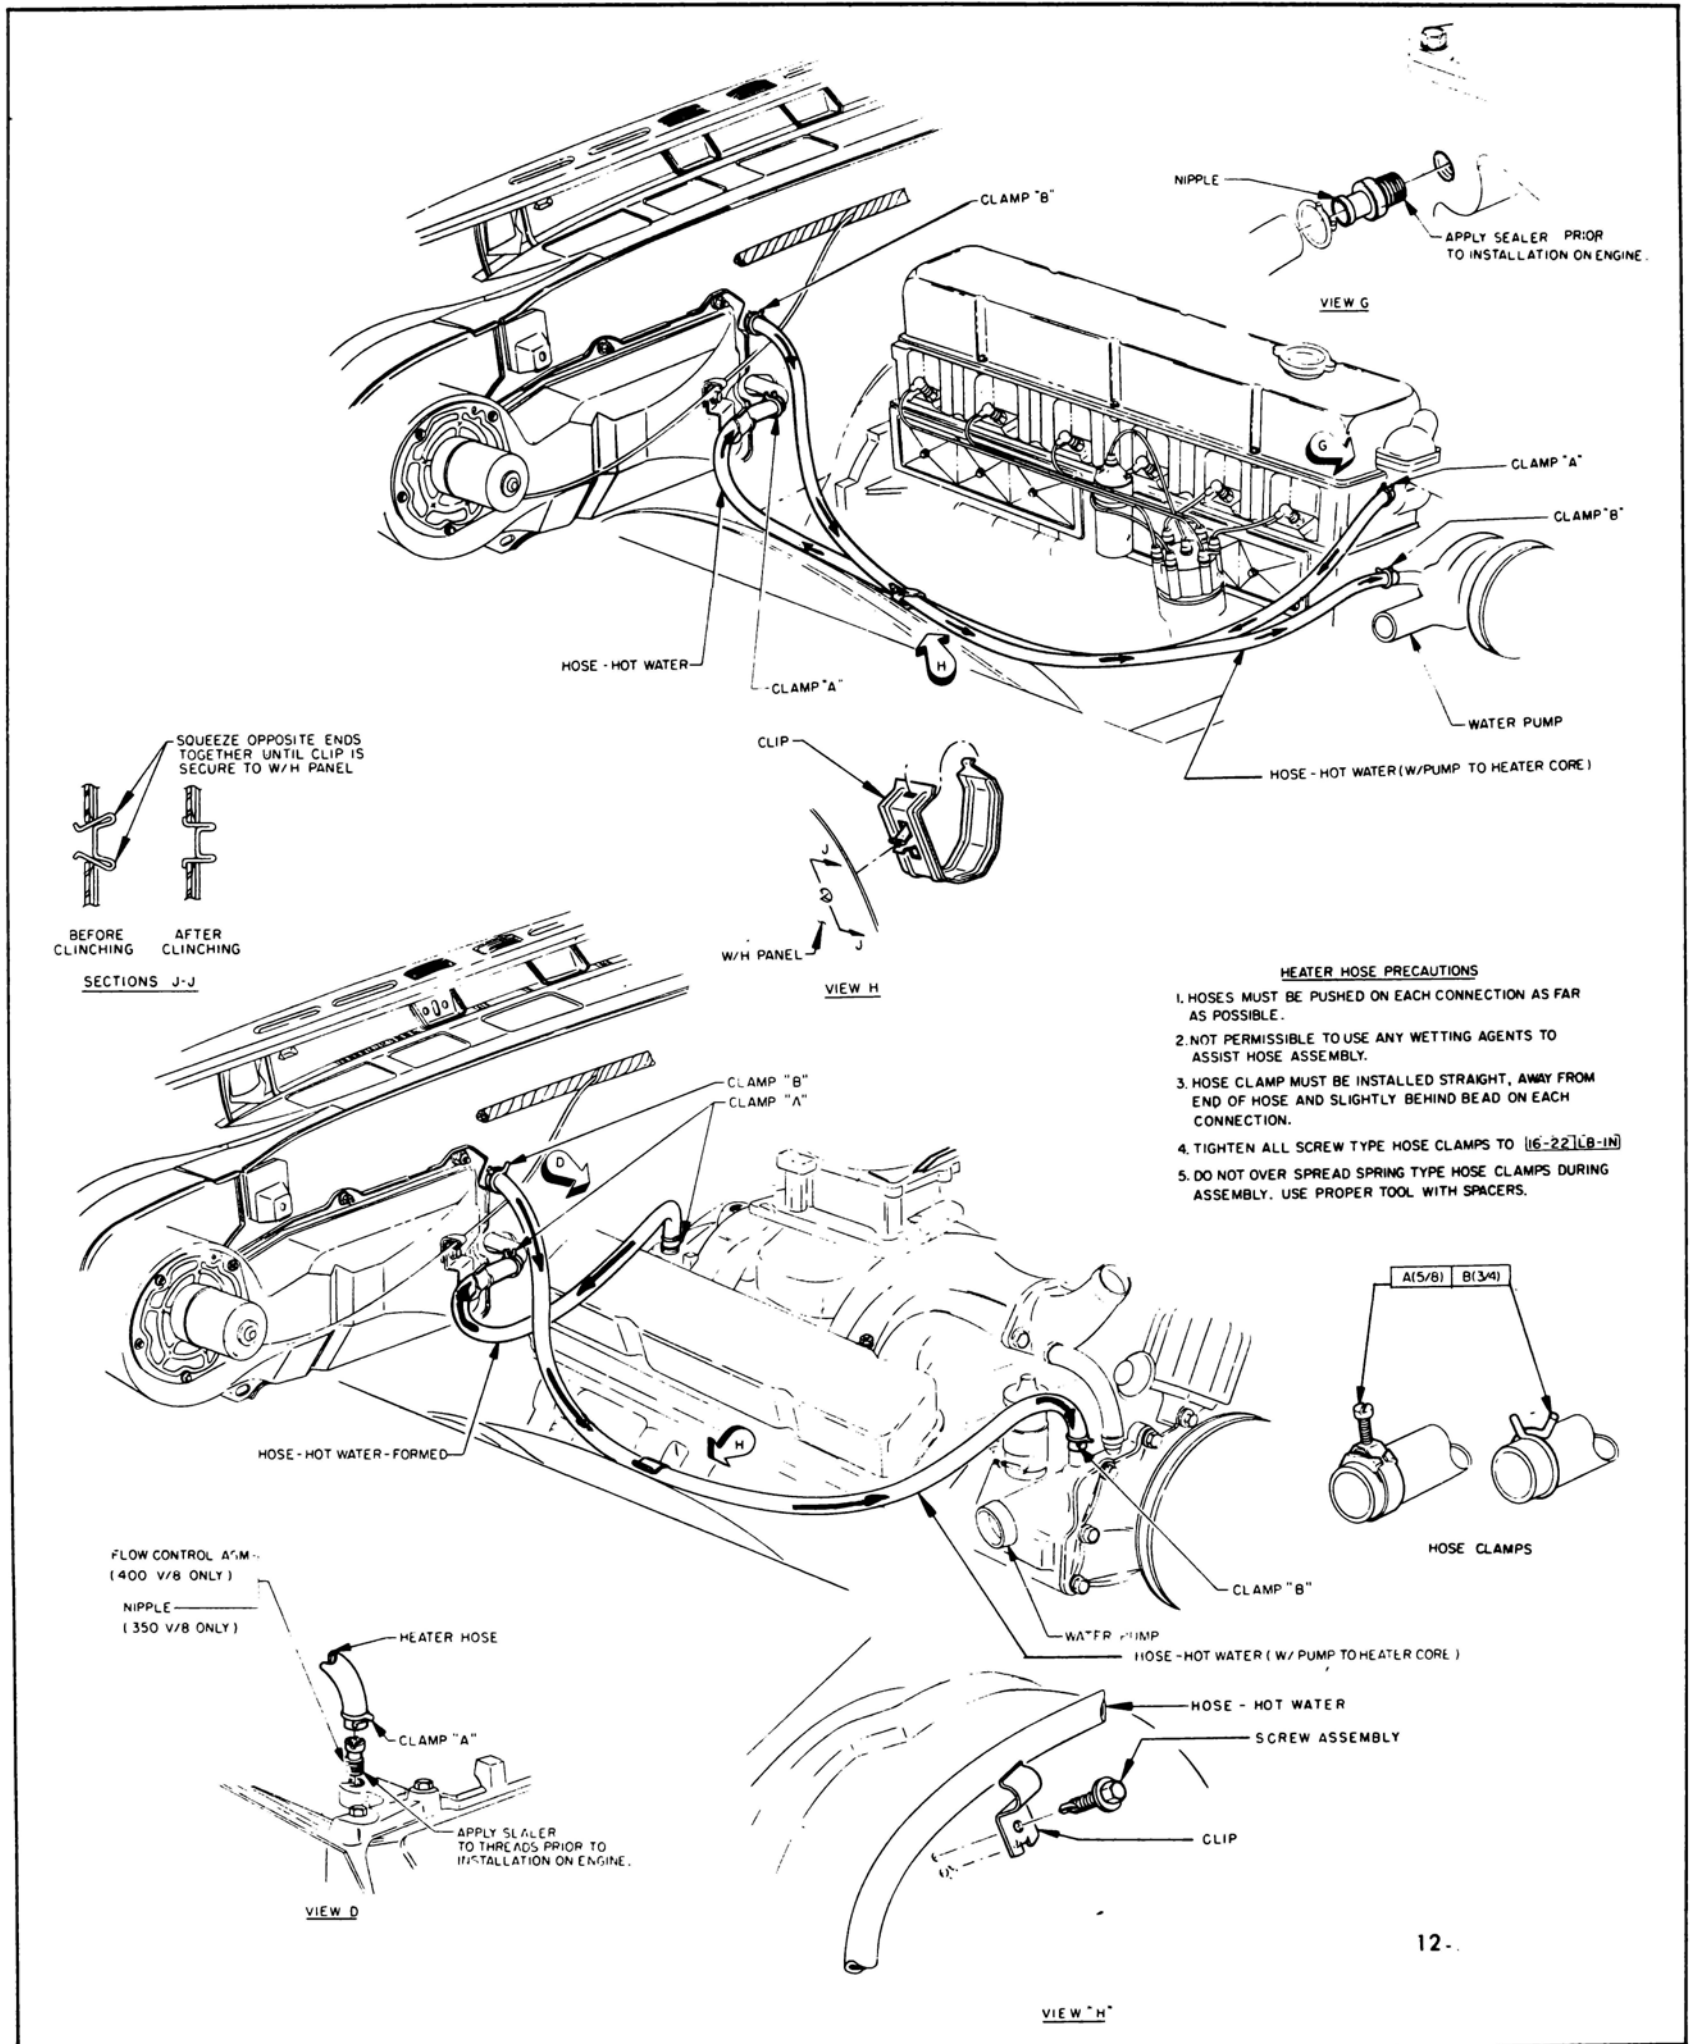

Figure 12-5 Heater Hose Installation
The heater core, located in the heater assembly, has water flowing through it at all times. The water flow begins at the right rear portion of the intake manifold (V-8 engines) or thermostat housing (L-6 engines) and flows to the lower inlet port of the heater core, out the upper outlet port of the heater core and to the suction port of the water pump. See Figure 12-5.
6. Disconnect heater inlet and outlet hoses from heater core inlet and outlet ports (see Figure 12-5).